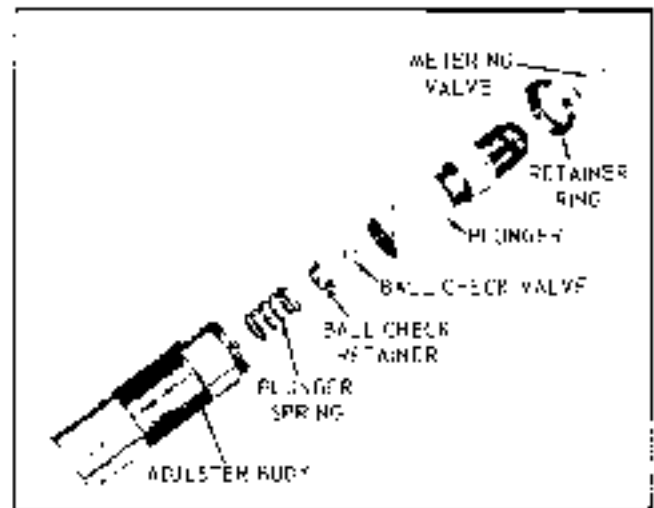

Fig. 6-20 Lash Adjuster—Exploded View
2. Fill the vent hole adjacent to the filler with engine oil (see Fig. 6-20).
LASH ADJUSTER—DISASSEMBLE (Fig. 6-20)
LASH ADJUSTER—ASSEMBLE (Fig. 6-20)
Figure 6-20 shows the relative position of component parts of lash adjusters. The recommended procedure for assembly is given in the following steps.